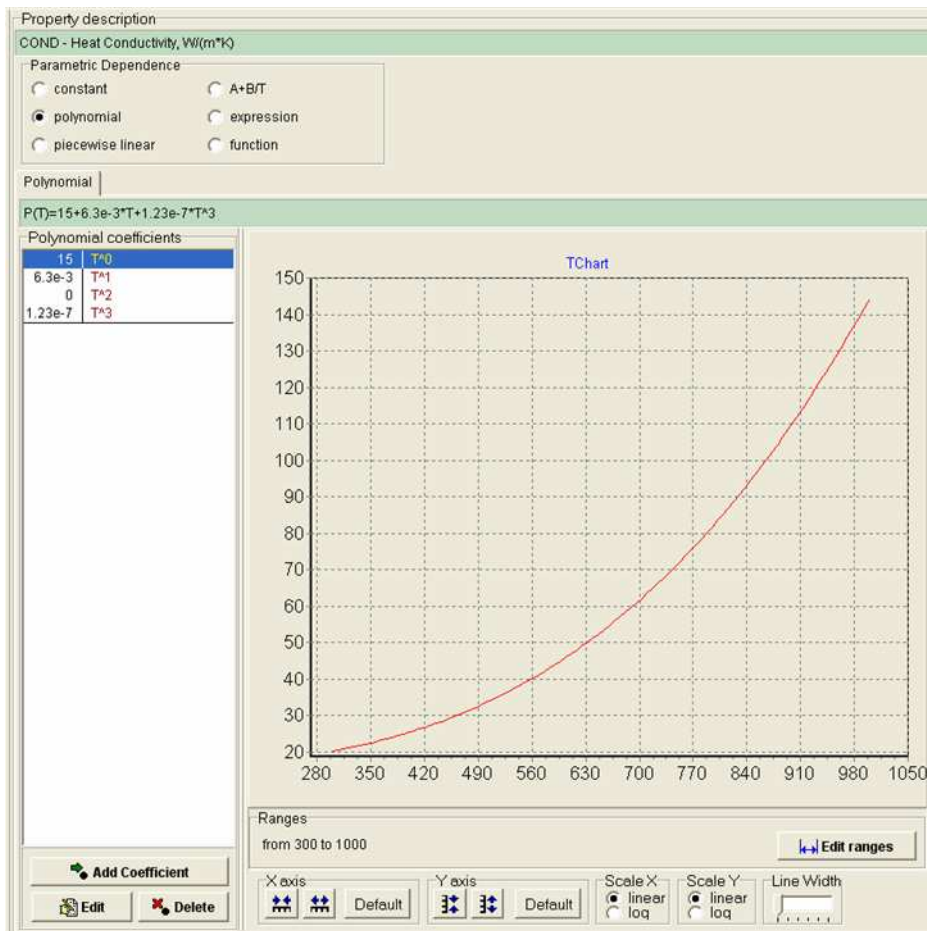

Fig. 48
- **Polynomial** (see Fig. 48). For a polynomial specification of the selected material characteristic, the *Property Description* section contains the following items: